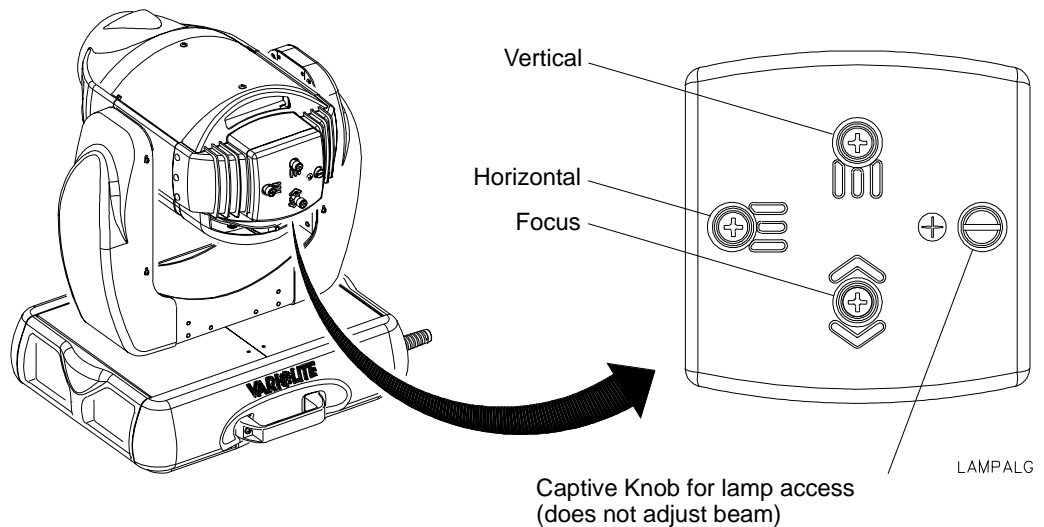

Figure 2-4: Lamp Alignment
- Step 4. At backcap, using vertical and horizontal knobs, adjust hot spot to center of beam. **Figure 2-4.**